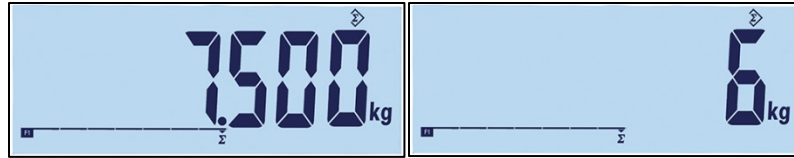

Figure 2-25: Collecting value symbol
3. Press and hold the function key to display the total value (Figure 2-25, left). Note that when the accumulation or count is displayed, the Accumulation icon Σ will blink. Press the function key briefly, and the “Count”, or number of values appears (Figure 2-25, right). Each time the “accumulation” key is pressed, the display will switch between count and sum.